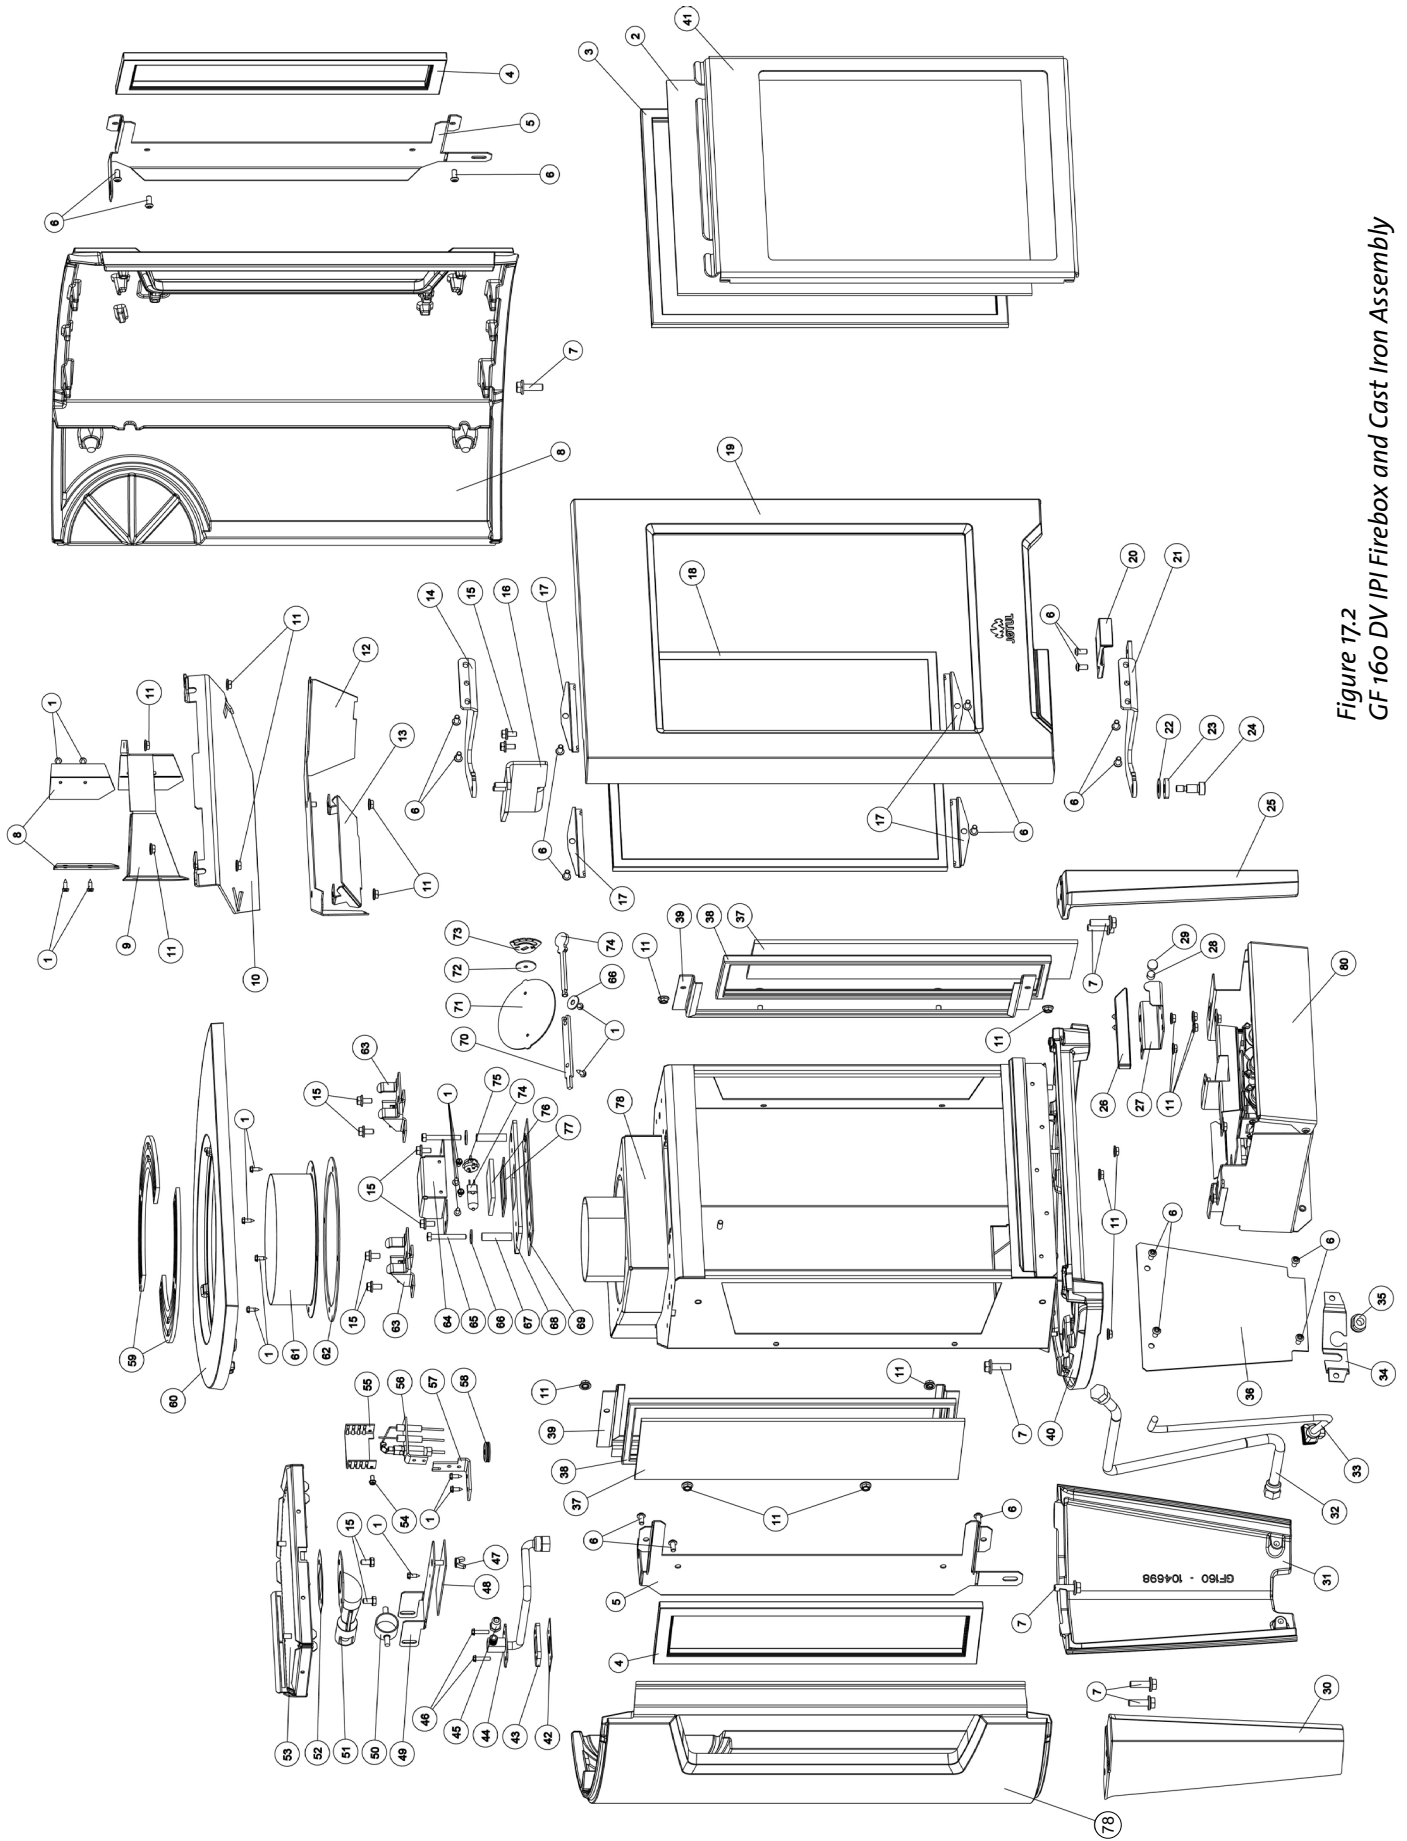

Figure 17.2
5. **Remove the Exhaust Baffle**, (#10, fig. 17.2) from the firebox with removal of two, 10 mm hex nuts, #11. See also Fig. 7.3, page 16.
- Refer to fig. 16.3 and fig. 17.2 to locate the M8 hex bolt, #7, that attaches the cast iron Side Plate to the stove Base Plate, #40.
The side screens are secured to the side plates by a steel bracket, #5, fig. 17.2, page 36, which must first be loosened to remove the screen frame.